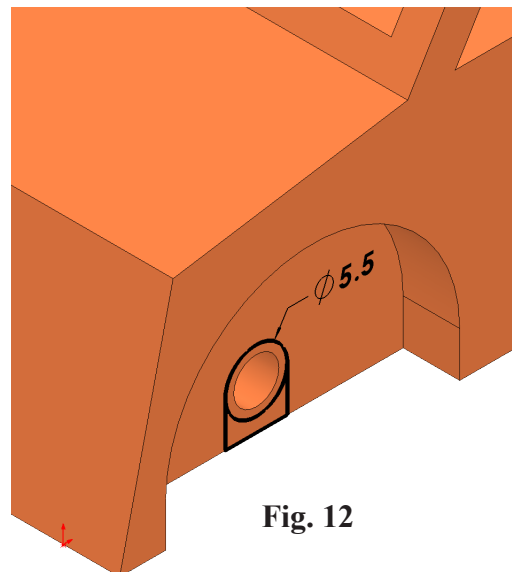

Fig. 12
Step 2. Click **Circle**  (S) on the Sketch toolbar.
Step 3. Sketch **circle at front axle centerpoint**, **Fig. 12**.
Step 4. Click **Smart Dimension**  (S) on the Sketch toolbar.
Step 5. Dimension **diameter 5.5**, **Fig. 12**.
Step 6. Click **Line**  (L) on the Sketch toolbar.
Step 7. Sketch the **3 lines**, **Fig. 12**. Sketch vertical line from circle left quadrant point  down to bottom edge across bottom edge and back up to right quadrant point .